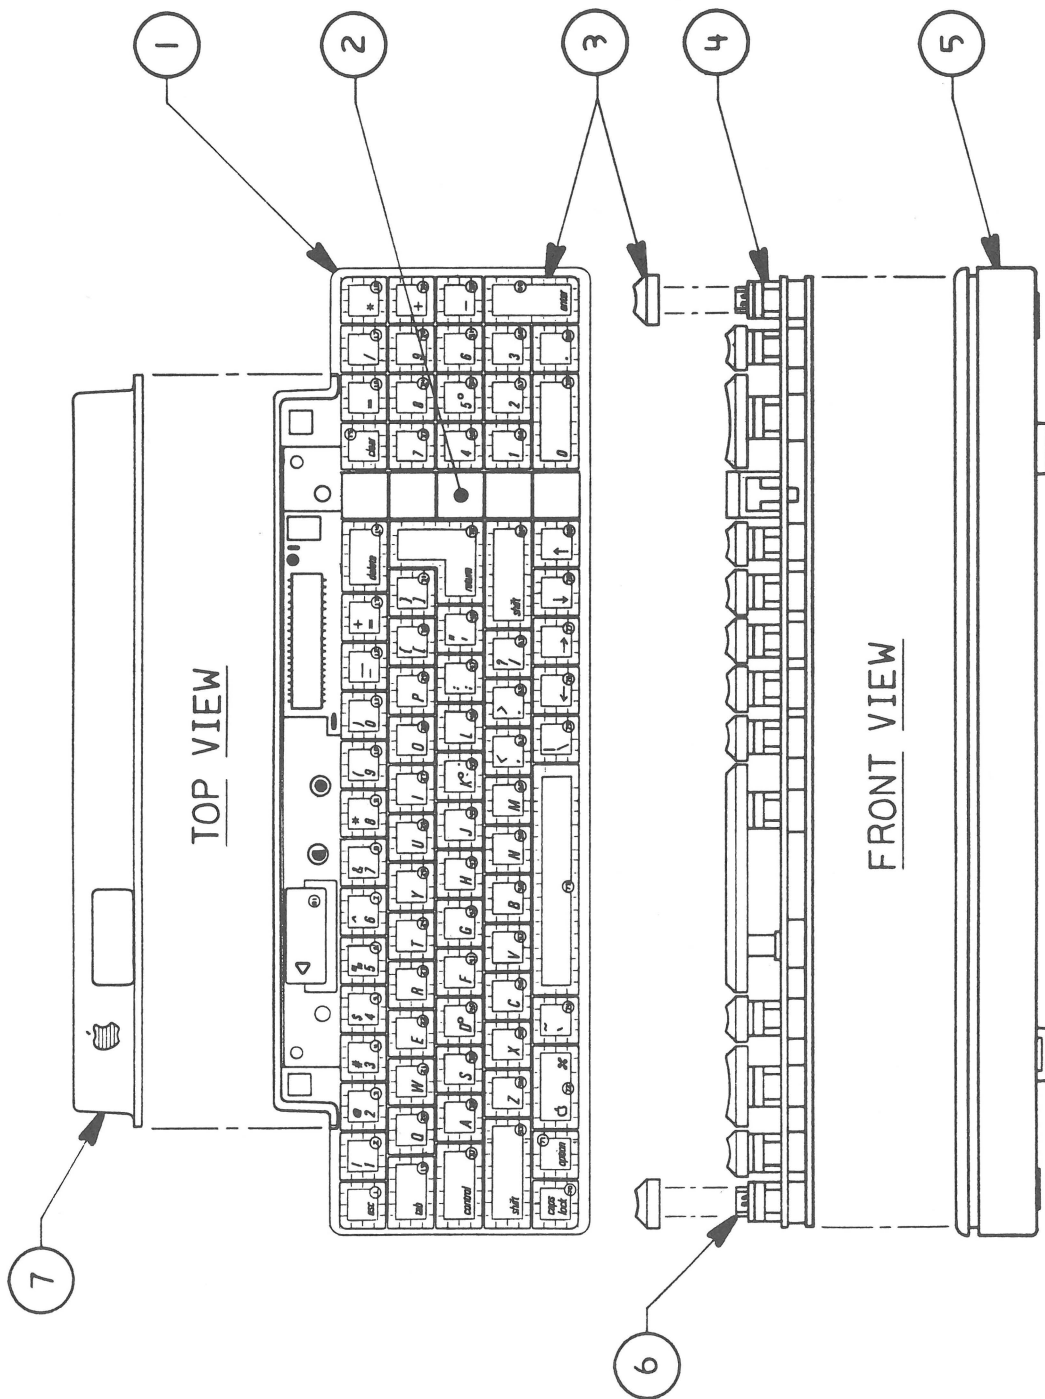

FIGURE 3
□ **APPLE IIgs – KEYBOARD (Figure 3)**